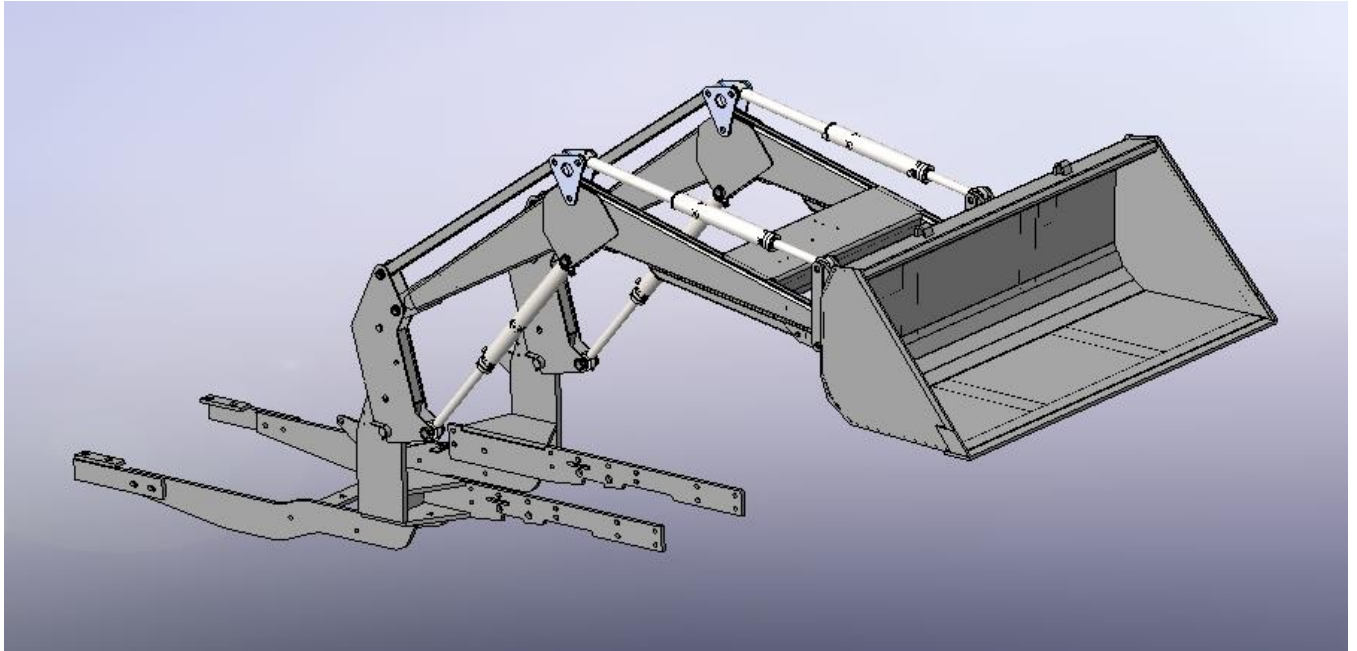

Fig. 1
Vertical posts of semi-frames are connected with each other by puller and rear attachment are fixed by puller (7) and attached to the body of tractor's gear box. The distance between posts is adjusted according (Fig.1) by means of puller 8.